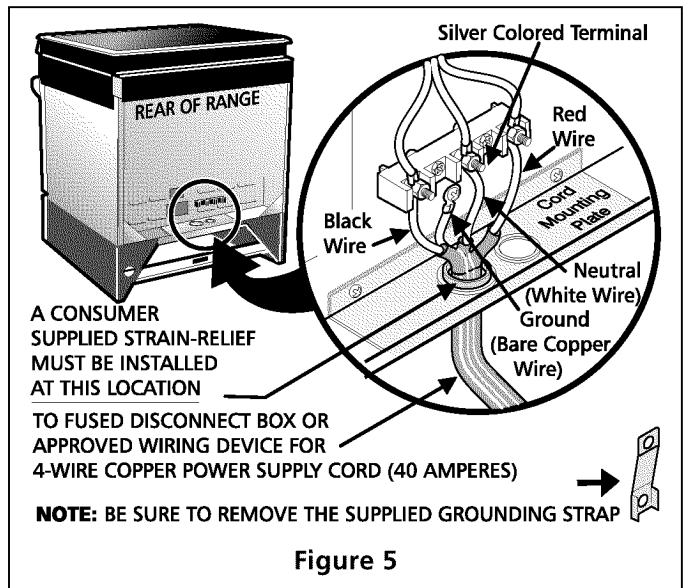

**Figure 4**
**If local codes permit connection of the frame grounding conductor to the neutral wire of the copper power supply cord (see Figure 4).**